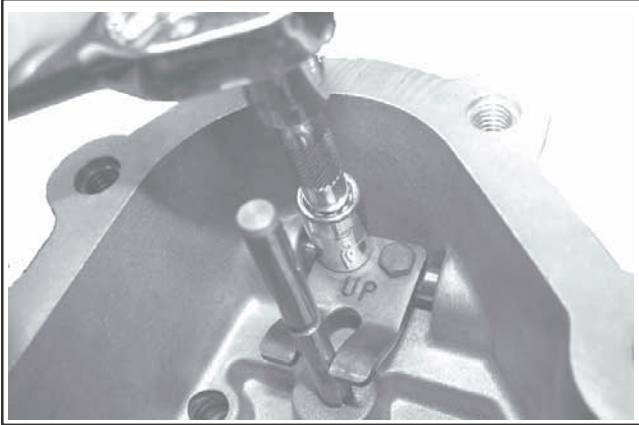

Figure 8-61. Removing Cross Shaft/Yoke Screws.
1. Remove the two mounting screws securing the yoke to the governor cross shaft. See Figure 8-61.